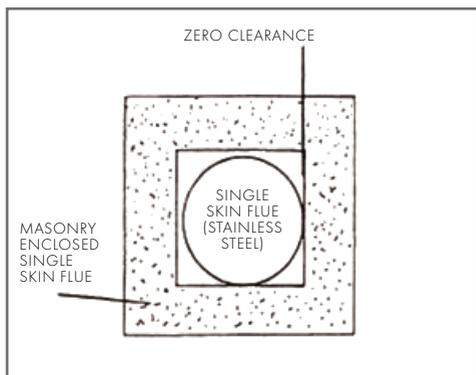

FIGURE 3B
4.2. MASONRY FLUE ENCLOSURES (FIG 3B)
Where flue is to be fully enclosed in masonry or other non-combustible material, only the single skin stainless steel active flue is required (refer "4.2. Masonry Flue Enclosures (Fig 3B)" on page 6).